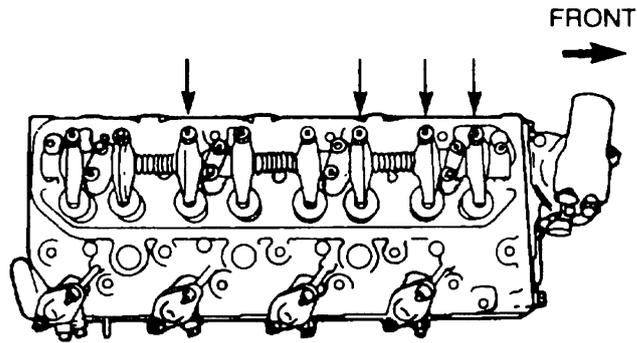

Figure 10 Valve Adjustment First Sequence
- f. Check that the valve clearances for the valves are 0.4 mm (0.016 in) and adjust the clearances as necessary (Figure 10).